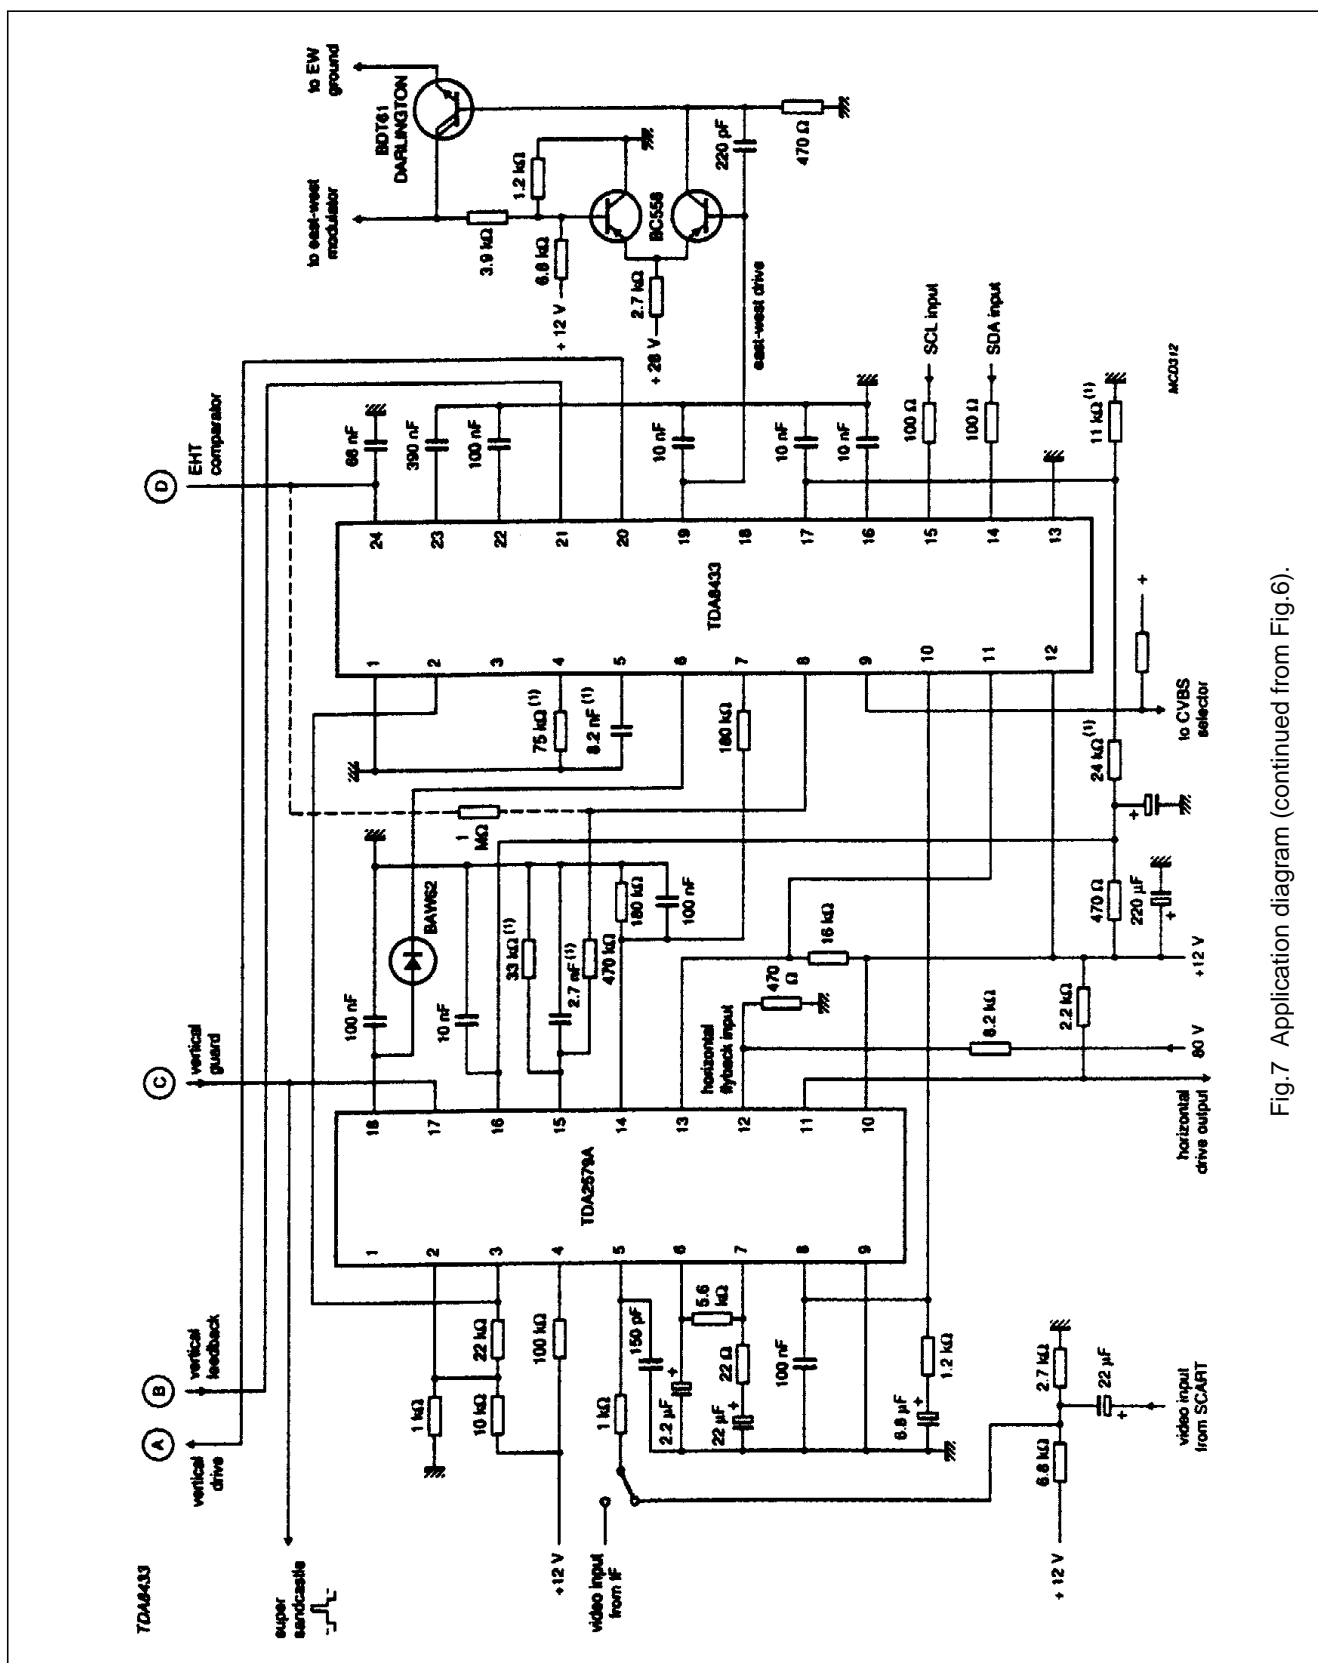

Fig.7 Application diagram (continued from Fig.6).
The formulae from which the typical vertical drive and typical E-W drive waveforms are generated are given in the following sub-paragraphs. For this purpose a typical application diagram for the vertical drive stage is assumed to be as illustrated in Fig.7. Pin 20 is the vertical drive output which drives an inverting power amplifier. The feedback network, R1 to R4 and C1 and C2, has two functions;
the peak-to-peak value of the linear sawtooth (see Fig.7).
The range for the V-S correction (SA^2) is defined as a percentage of the undistorted peak-to-peak sawtooth voltage (see Fig.7). The actual S-correction component (SA^2) is dependent on the picture height setting where:
- The maximum possible trapezium output is 1.6 V (typical - see Fig.7). This is the case where: $a = 0.5$, $c = 0$ and $p = 1$ i.e. no corner correction and the maximum parabola correction at nominal picture height settings.